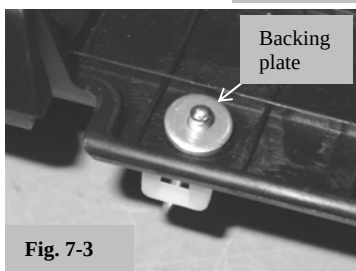

Fig. 7-3
- (1) Use the provided backing plates on the back of the panel to back up the rivets. (Fig. 7-3)